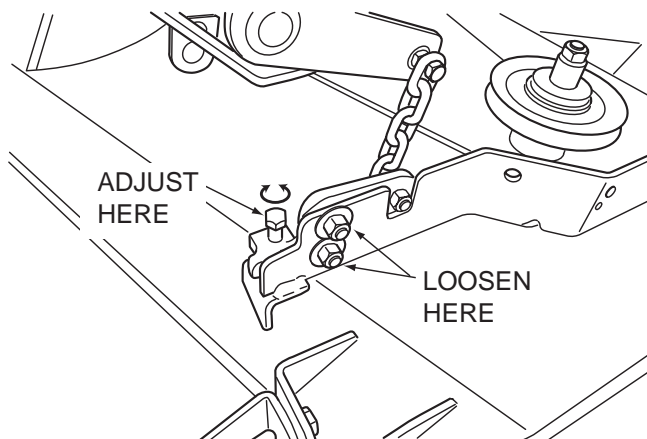

Figure 6-5. Cutter Deck Level Adjustment
1. On the front LH side of the cutter deck locate the cutter deck level adjusting bracket. See Figure 6-5